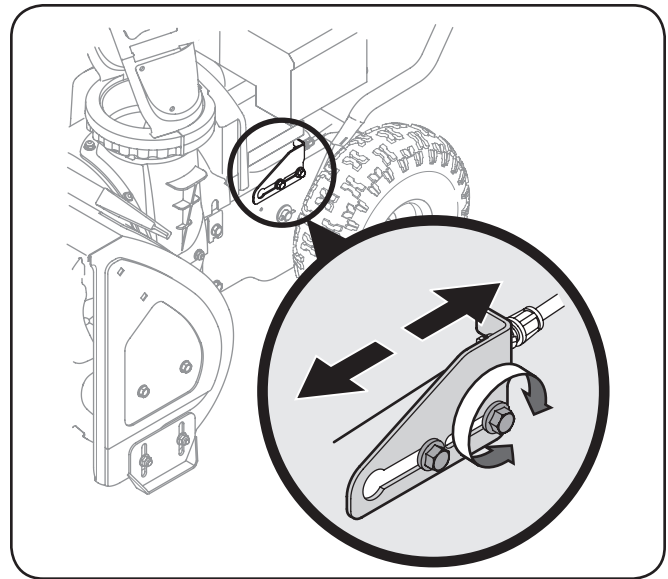

Figure 3-10
7. Loosen the rear hex bolt on the cable adjustment bracket. See Fig. 3-10.